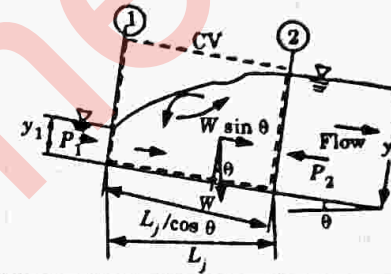

Fig. 3.12.1. Definition sketch for a jump on a sloping floor.
- The definition sketch of a jump on a sloping floor in a rectangular frictionless channel is indicated in Fig. 3.12.1. The momentum correction factors β_1 and β_2 are assumed equal to unity.